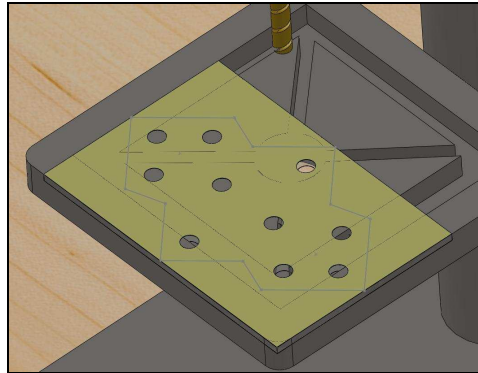

Figure 6: All holes drilled in top piece Side 1
- E. Reclamp the piece for every hole and repeat the procedure for the remaining holes as shown in Figure 6.